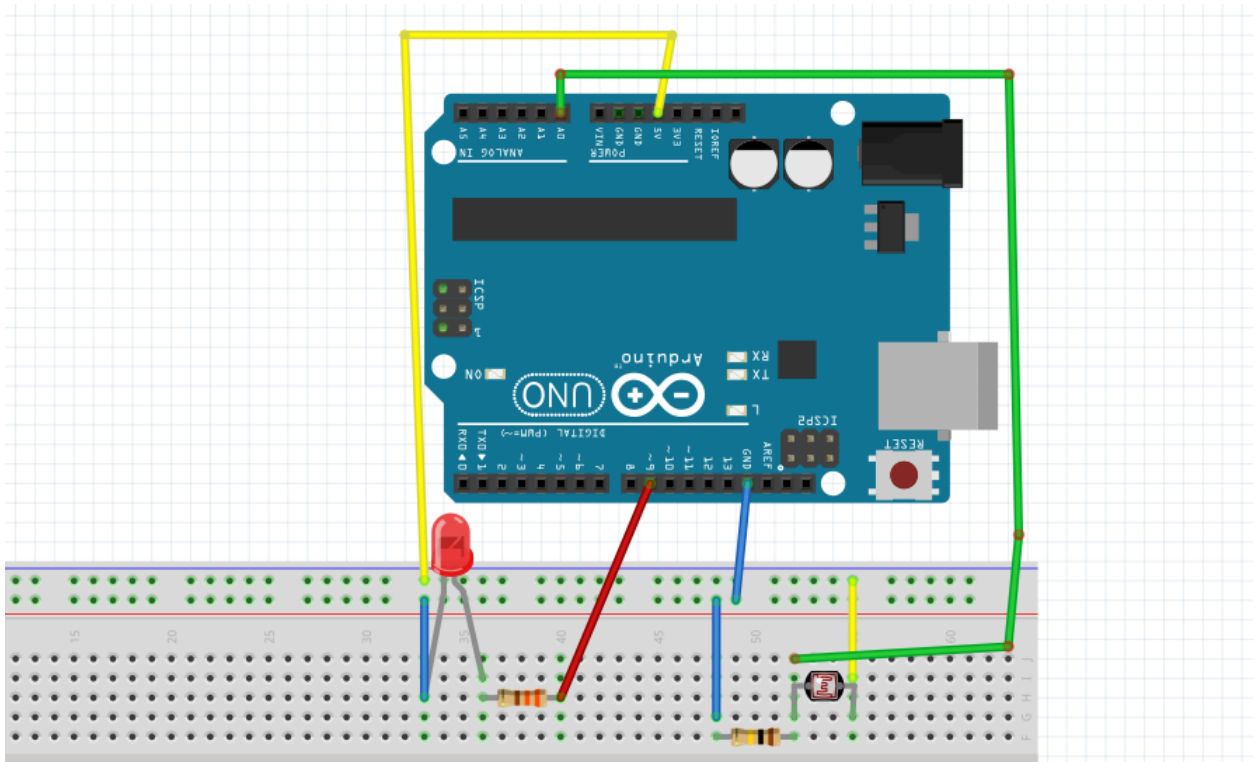

Figure 1.6
5. Next step is connecting the second leg of the LDR to pin A0 as shown in figure 1.6.